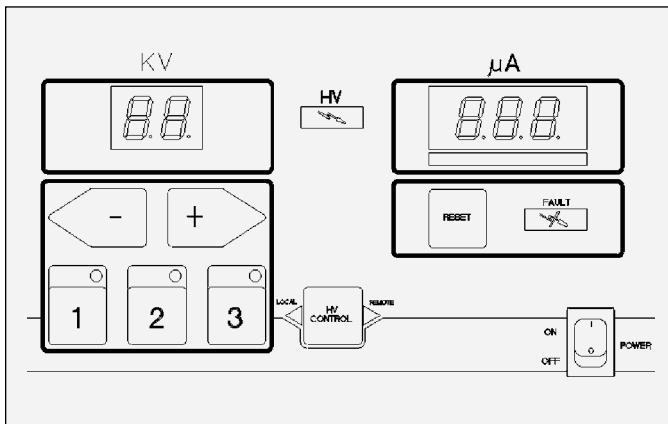

Figure 3: 9060 Operator Interface
The 9060 Controller shown in Figure 3, has a simple operator interface consisting of 7 LEDs (Light Emitting Diodes), one (1) power switch, seven (7) buttons, one (1) current LED bargraph, and two (2) screens containing seven-segment displays.
This button, shown in the center of Figure 3, is **not used** to perform mode changes. It is **reserved** for future use. The unit defaults to LOCAL mode. To enter REMOTE mode, a remote I/O signal input, local/remote mode selection, that indicates when the unit should be in REMOTE mode. When this remote I/O signal is active, the unit will be in REMOTE mode, otherwise the unit will be in LOCAL mode.